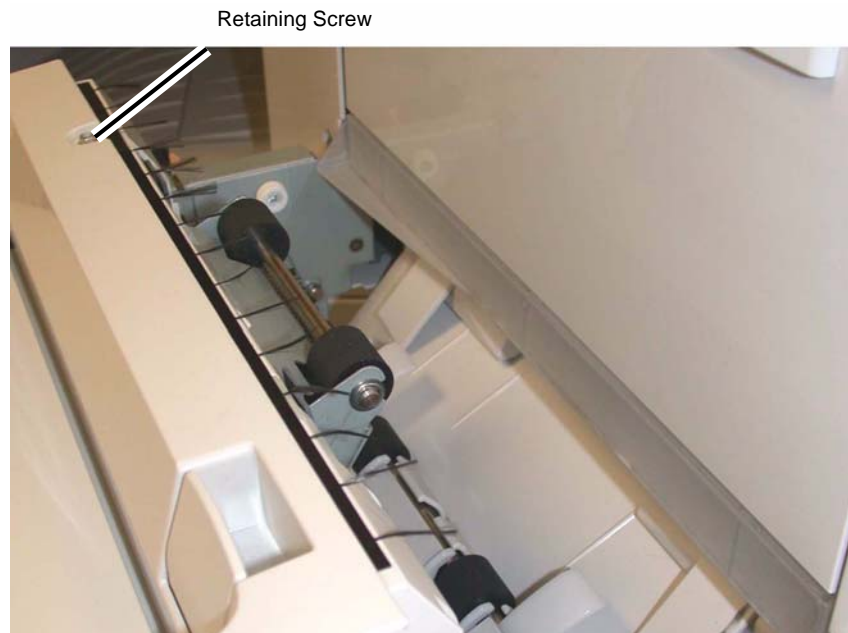

Figure 6 Installing the Retaining Screw
5. Install the Retaining Screw (1) (Figure 6).